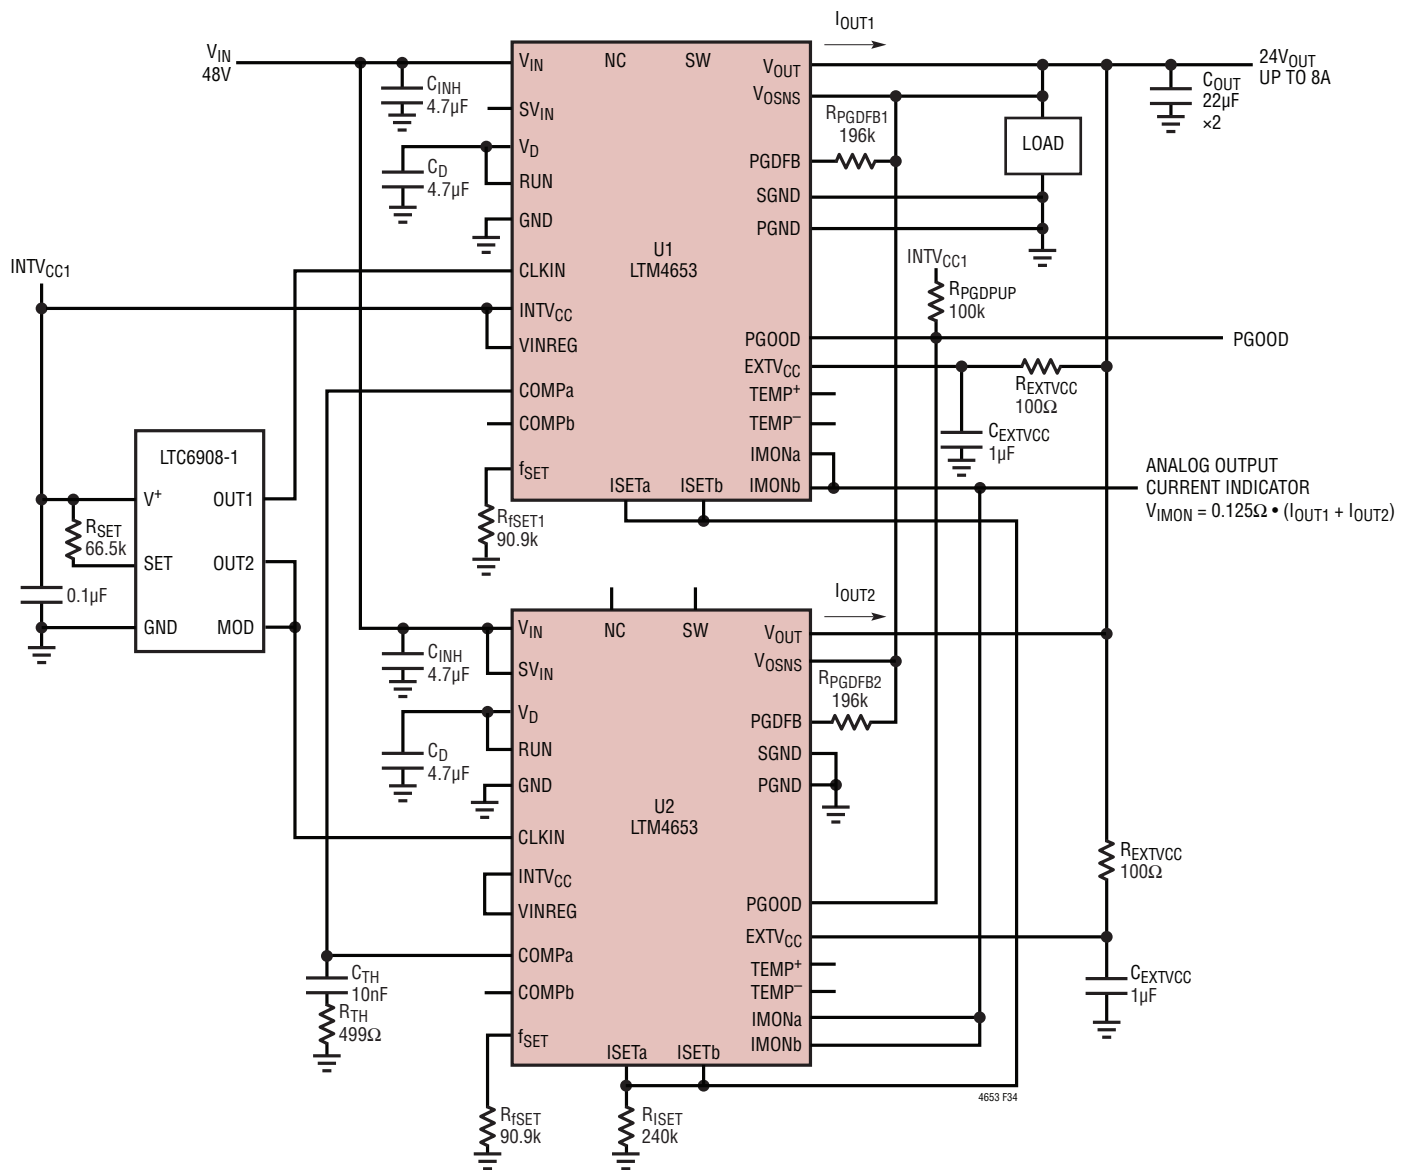

Figure 34. 24V Output at Up to 8A from 48V Input, 2-Phase Parallel with Analog Output Current Indicator
- For parallel module applications, connect the V_{OUT}, V_{OSNS}, RUN, ISETa, COMPa and PGOOD pins together as shown in Figure 34.